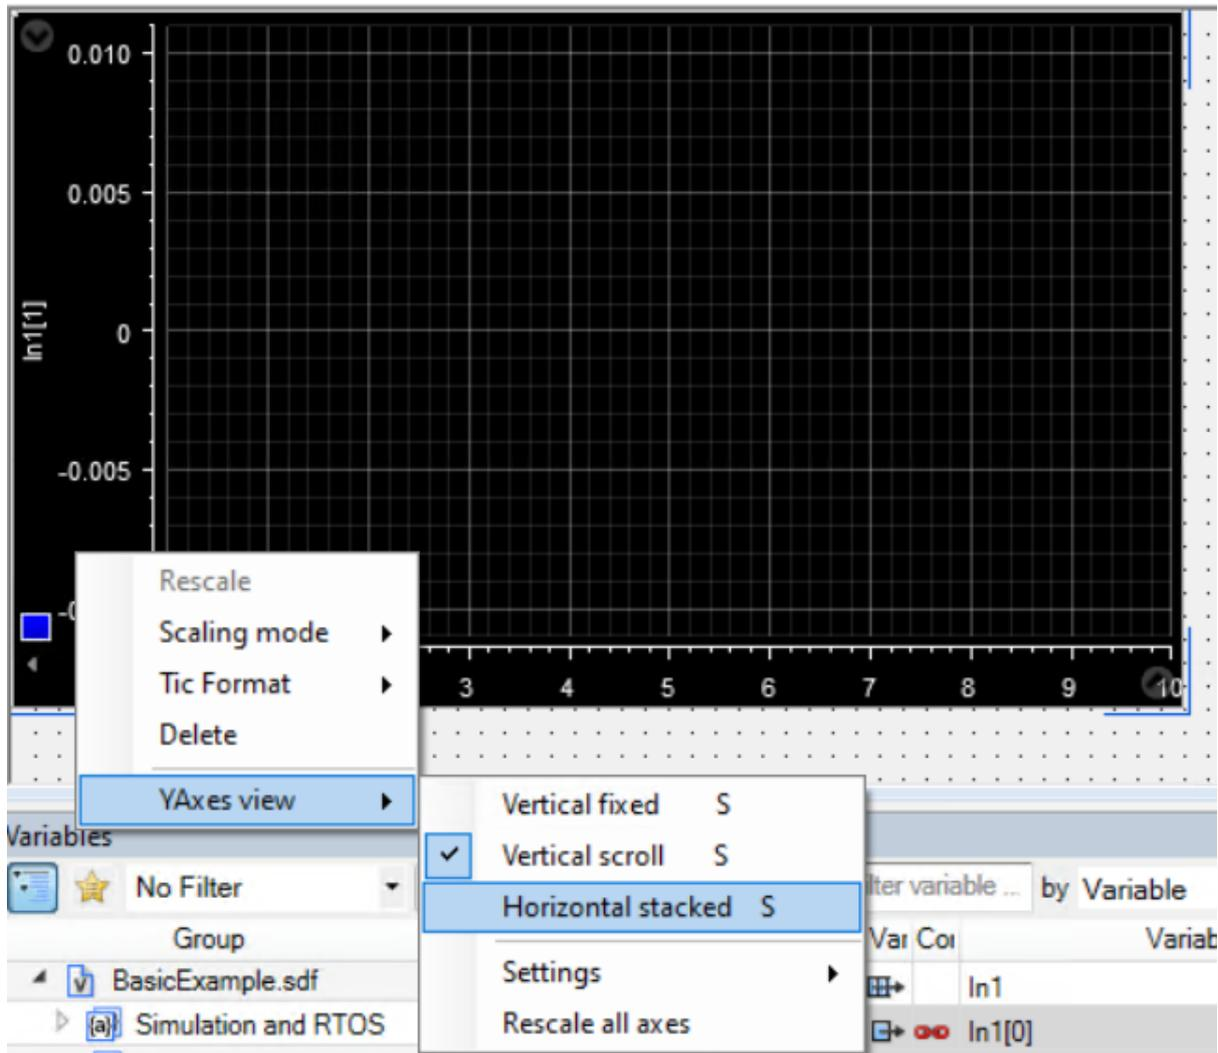

Figure 13.55: Select to show all the signals on the same plot with their own Y-axes
- 8) To see all the plots concurrently right-click on the left of the Y-axis and select `YAxes-view>Horizontal stacked` (see Figure 13.55).